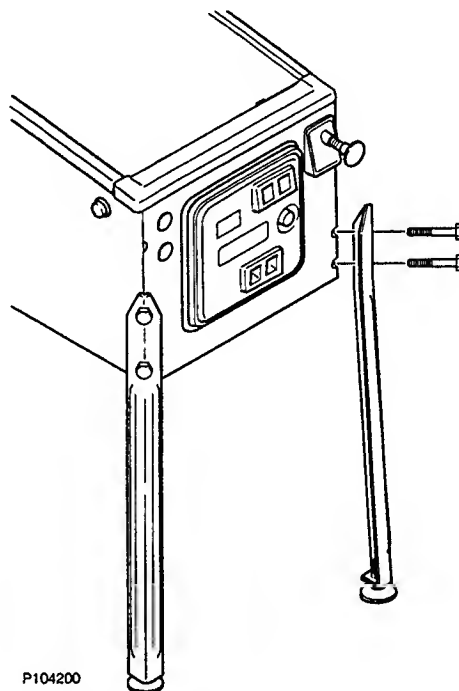

FIGURE 8: INSTALLING LEGS ON CABINET
9) Carefully lift the front of the cabinet and place on a sturdy support. Attach the front legs using two acorn-head bolts. Tighten bolts firmly (see Figure 8).